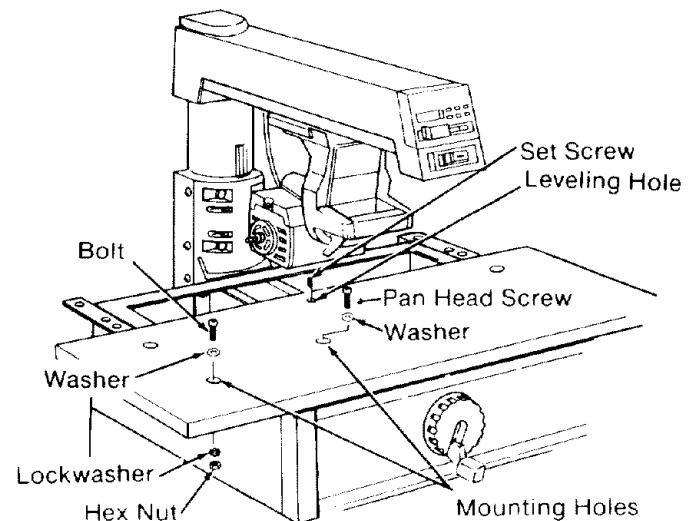

Fig. 67
4. Place the *front table* on the *saw* so that the *mounting holes* in the *table* line up with holes in the *table supports* and center channel of *saw*. (Figure 67)
5. Start the *cup point set screw* through the *leveling hole*. Do not tighten. (Figures 67 & 68)
6. Put a *washer* in each of the *mounting holes*. (Figures 67 & 69)
7. Start a *pan head machine screw* through the center *mounting hole*. Do not tighten. (Figures 67 & 70)
8. Install the *pan head bolts* through the other four mounting holes. Put a lockwasher and hex nut on each bolt and tighten using a Phillips screwdriver. (Figures 67 & 71)